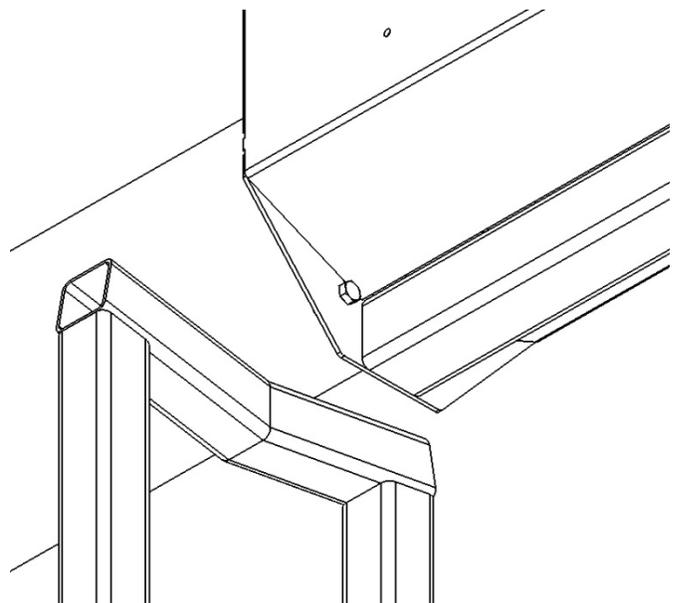

Fig. 10.4
Loosen bolts and remove both access panels. Using a lifting strap, lift and slide the infeed housing over the bottom flighting on the 1st tube. Secure the infeed housing to the first tube using (6) 1/2" x 1-1/2" flange bolts and nuts & (2) 1/2" x 1-1/2" hex bolts & flange nuts. The (2) 1/2" x 1-1/2" hex bolts should be used on the bottom holes and orientated as shown in fig. 10.4.